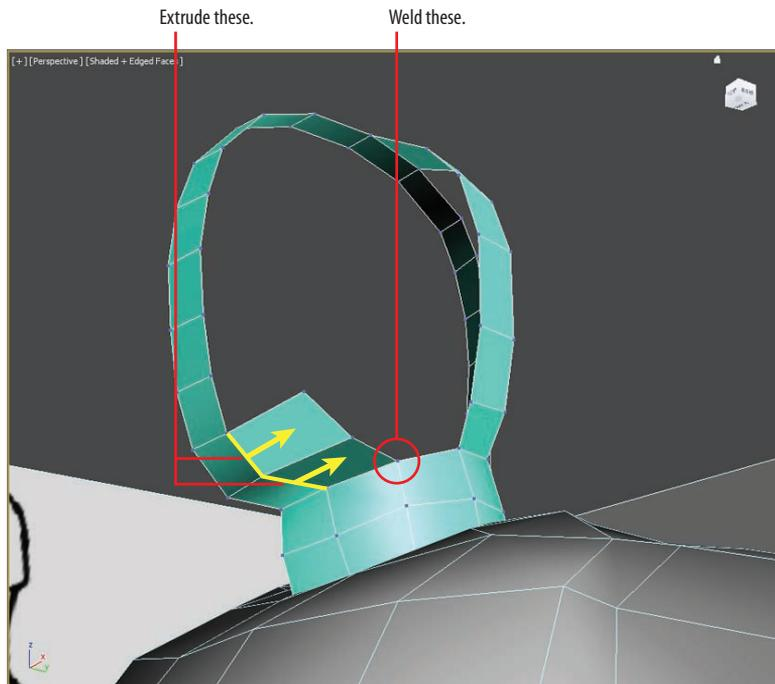

FIGURE 9.6 Extrude edges to the right and weld the neck vertices.
5. To build the front of the face, start by selecting the two edges just under the chin and use Shift+Move to extrude them out to the right, as shown in Figure 9.6.
7. Click one vertex and drag a line to the other to fuse the vertices together. First click the vertex on the new polygon closest to the neck, and then click on the neck vertex, shown in Figure 9.6. This will fuse the new polygons for the jowls to the neck.